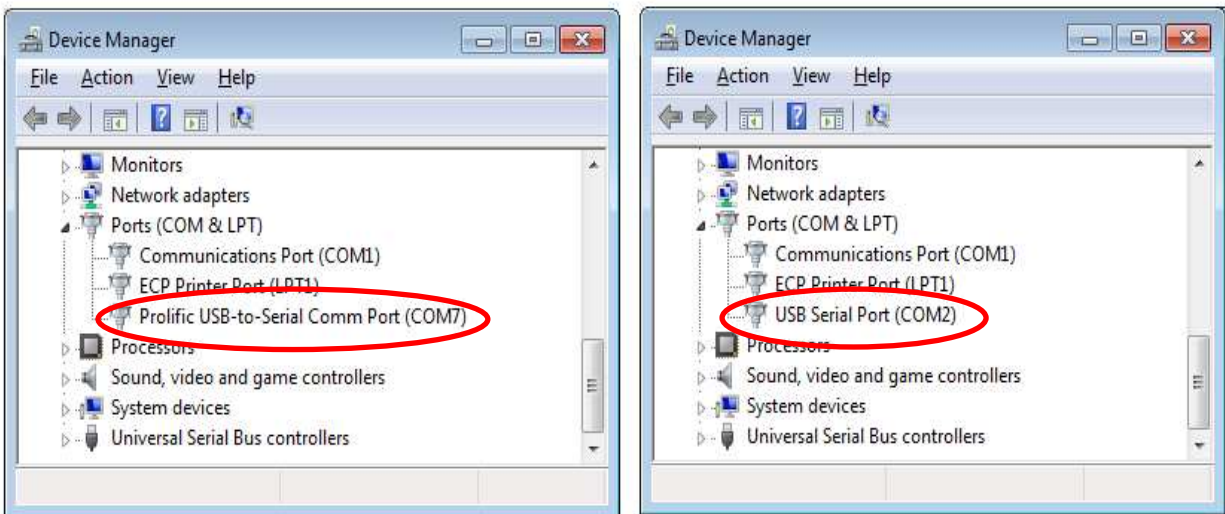

Figure 1. Appearance in Device Manager of the USB to Serial adapter, 3661USB (left) and the USB to stereo pin, 3661U (right).
2. Identify the COM port to which you've connected your PC interface cable. This will be the port you use to configure and download your Field Scout meter. If you have a cable with a USB plug, the COM port should appear in the PC's Device Manager screen whenever the cable is attached to the PC. In fig. 1, the screen on the left is for the USB to 9-pin adapter (item 3661USB). The screen on the right is for the USB to stereo pin cable (3661U).